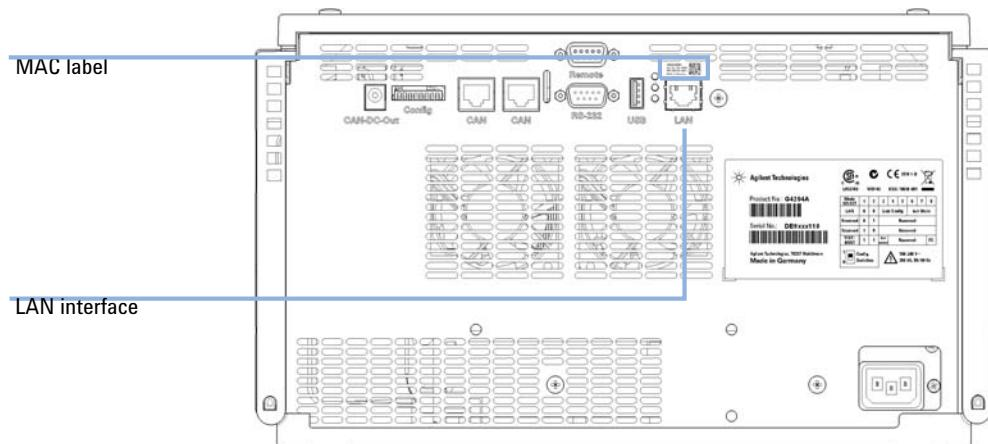

Figure 33 Location of LAN interfaces and MAC label
- 1 Note the MAC (Media Access Control) address for further reference. The MAC or hardware address of the LAN interfaces is a world wide unique identifier. No other network device will have the same hardware address. The MAC address can be found on a label at the rear of the module underneath the configuration switch (see Figure 33 on page 244).
- 2 Connect the instrument's LAN interface (see Figure 33 on page 244 to